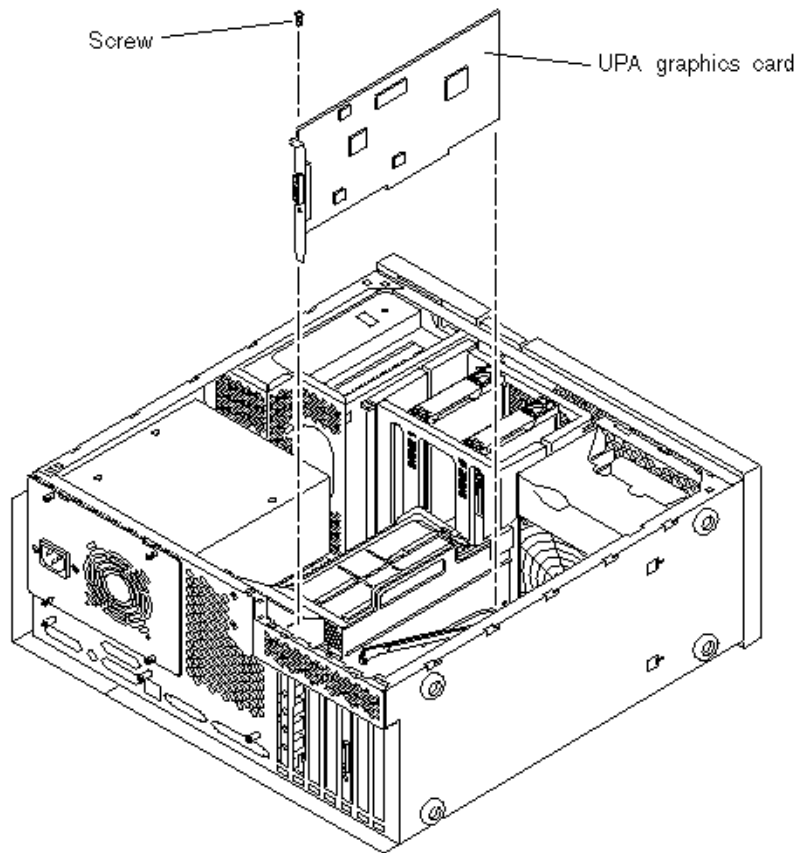

Figure 10-4 Removing and Replacing a UPA Graphics Card
5. Remove the UPA graphics card as follows (Figure 10-4):
1. Replace the UPA graphics card as follows (Figure 10-4):